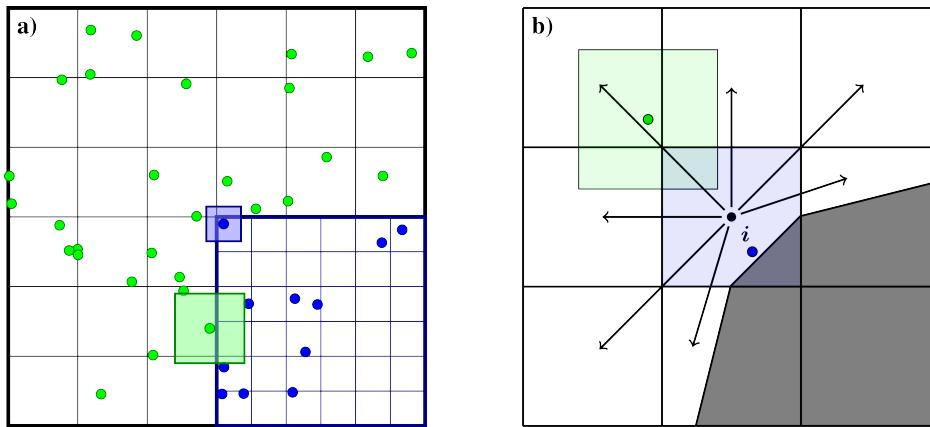

Fig. 3.4.1: Sketch of deposition schemes near refinement boundaries and cut-cells.
- `CoarseFineDeposition::Interp` This method permits the coarse-grid particles to deposit into the region underneath the fine grid. The deposited mass that falls underneath the fine grid is then interpolated from the coarse grid to the fine grid. For example, see the indicated coarse-grid particle cloud in the left panel Fig. 3.4.1. While this particle has a width given by the coarse-grid cell size, it will deposit into the coarse grid cells underneath the fine grid. The mass that ends up in these cells is interpolated to the fine grid, which in this case will inject mass into two layers of fine-grid cells.
- `CoarseFineDeposition::Halo` This method extracts the coarse-grid particles that live on the refinement boundary and deposit them with their original width on both the coarse and fine levels. This is done by first depositing the particles on the coarse level, and then transferring them to the fine level and redepositing them there with the original particle width. Taking the left panel in Fig. 3.4.1 as an example, the green particle will then deposit into the coarse-grid cell as well as the first layer of fine-grid cells.